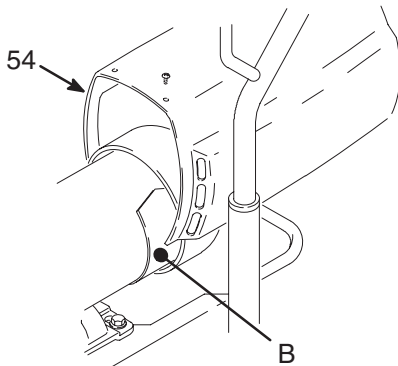

Fig. 11 7703B
2. Remove motor shield (54). Remove inspection covers (B) and gaskets on each side of motor. See Fig. 11.